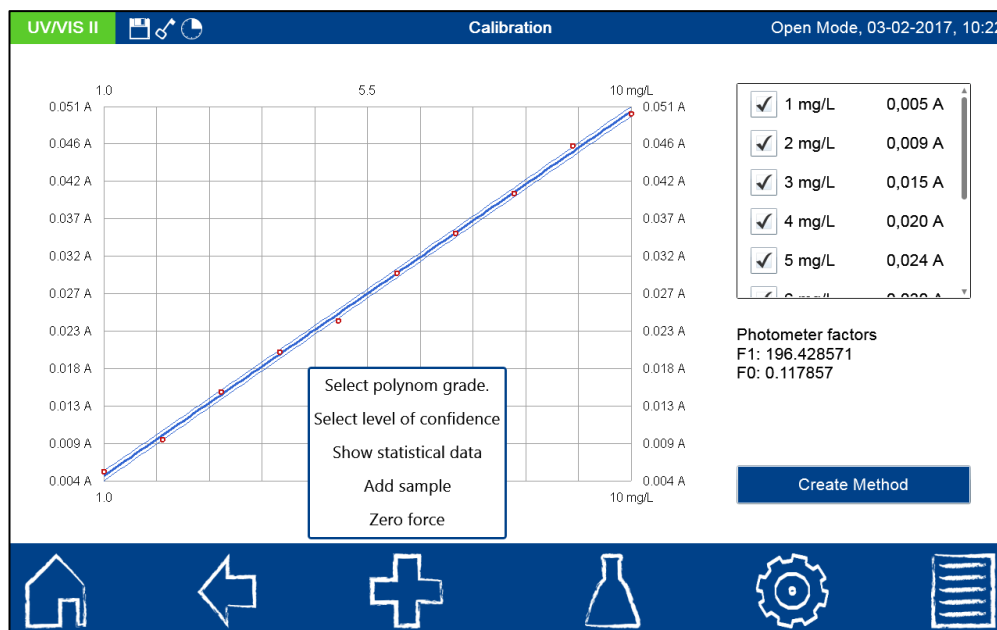

Figure 37: Calibration curve as a result of the measurement of individual standard solutions
*Please note:* When the “reagent blank value” option is used, the photometer assumes that the corresponding regression line passes through the zero point. If the regression line is supposed to pass through the zero point even when measured against water, please use the option “Zero force” by pressing the  icon in the window for editing the calibration curve (see Figure 37).
After the last cuvette has been removed from the photometer, all statistical parameters will be calculated and plotted as shown in Figure 37.